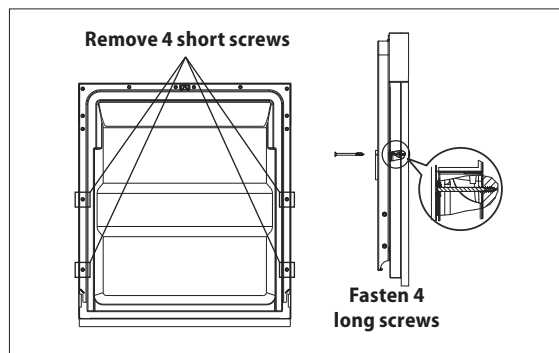

Fig. 16b
- Fasten the cover plate using the screws (Fig. 16b).
- Unscrew the four short screws from the inner side of the door (Fig. 16b).